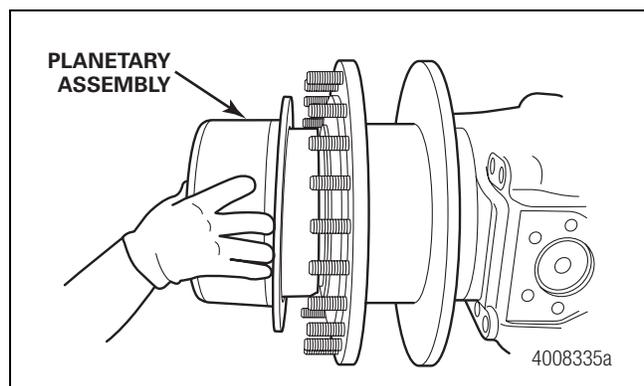

Figure 3.2
1. Use a suitable lifting device to support the planetary assembly. Remove the mounting bolts. Remove the planetary assembly from the hub. Figure 3.2.